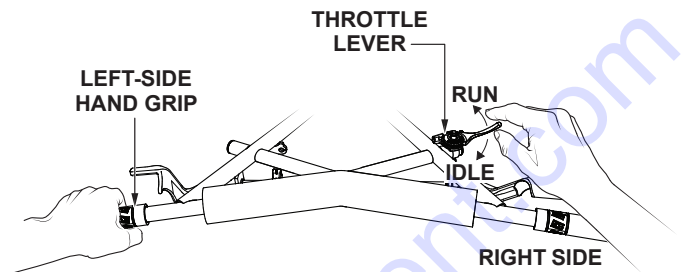

Figure 39. Throttle Lever (Run/Idle)
2. With one hand on the **left-side** handgrip, move the throttle lever (Figure 39) from the **IDLE** position to the **RUN** position.